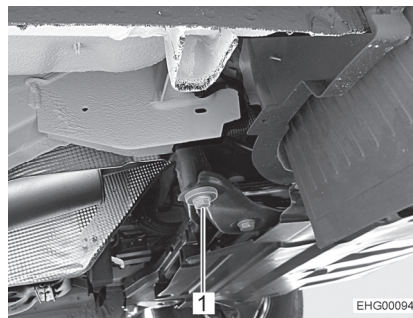
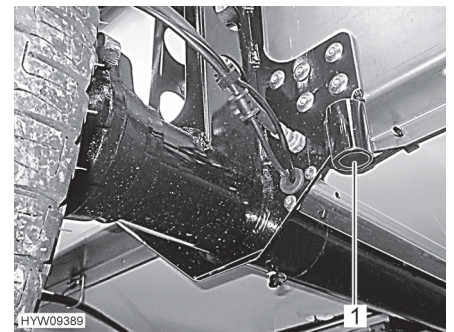

Fig. 230 Attachment point for vehicle jack (front axle)
Fig. 231 Attachment point for vehicle jack (rear axle)
- Position the vehicle jack at the designated attachment points (Fig. 230,1 and Fig. 231,1).